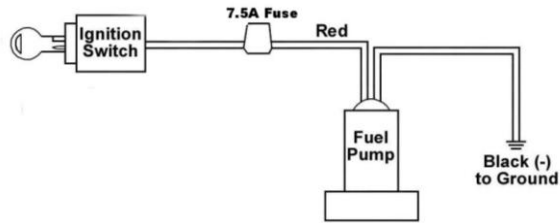
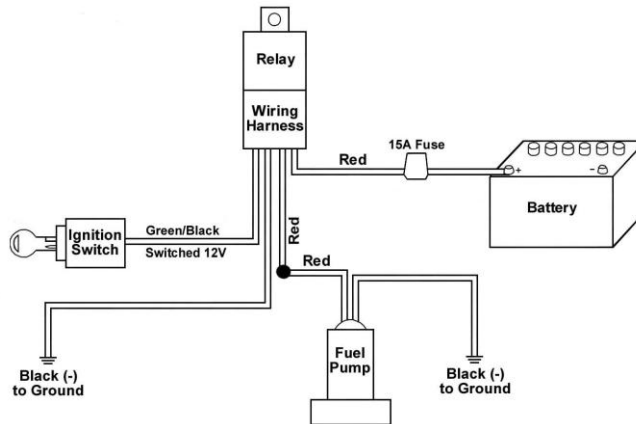

Figure 4
Figure 5
**NOTE:** A fuel pump can be wired as shown in Figure 4, but the preferred method is wiring it through a relay, as shown in Figure 5.